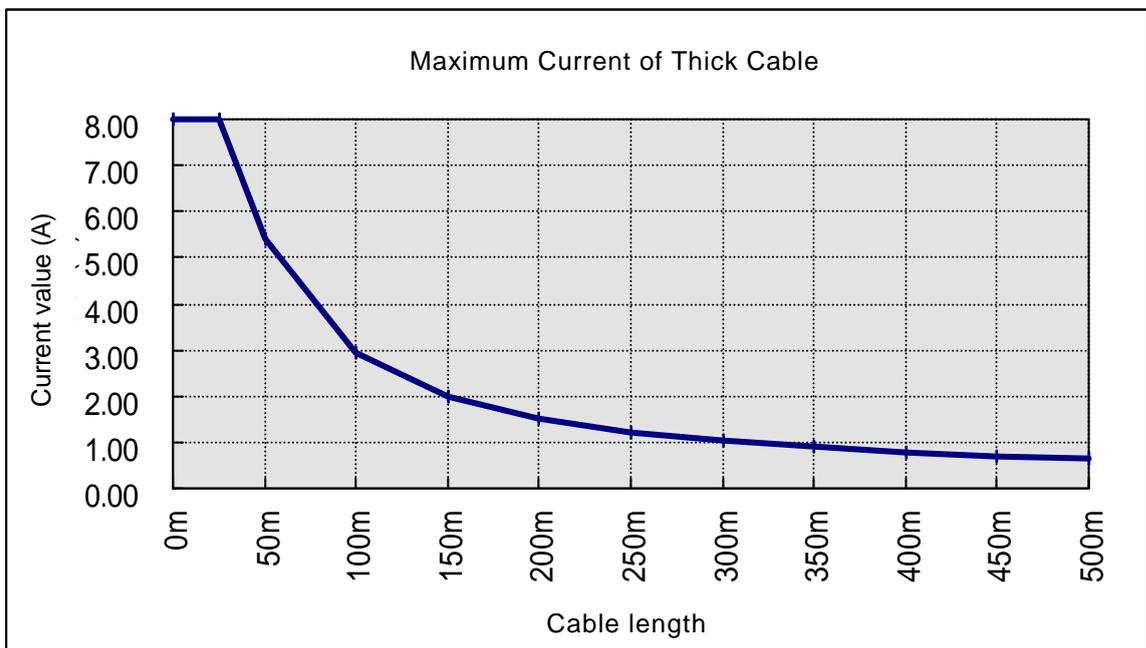

Figure 3.10 Current of the Trunk Line (thick cable)
- c) Based on the cable type (thick cable, thin cable) used for the trunk line and the full length of the network obtained through procedure b), get the maximum current value available on the cable by using Figure 3.10 and Figure 3.11
- c) Maximum current = 1.53 A available on the cable, based on Figure 3.10
(4) Single Power Unit Central Connection
- c) Maximum current available on the cable based on Figure 3.10 = approx. 2.56 A (Obtain the approximate value between 100 to 150 meter straight cable.)
- c) Maximum current available on the cable based on Figure 3.10 = approx. 2.56A (Obtain the approximate value between 100 to 150 meter straight cable.)
- c) Maximum current available on the cable in section 1, based on Figure 3.10 = approx. 2.19A